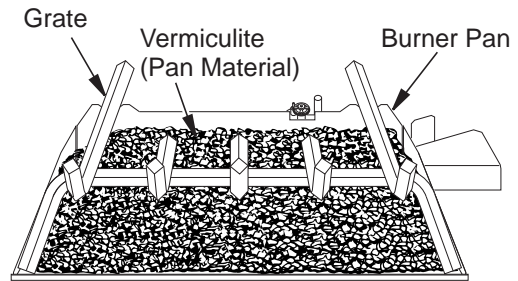

Figure 20 - Fill Entire Burner Pan with Vermiculite
1. Open bag(s) of vermiculite and fill entire burner pan until burner tube is completely covered (see **Figure 20**).